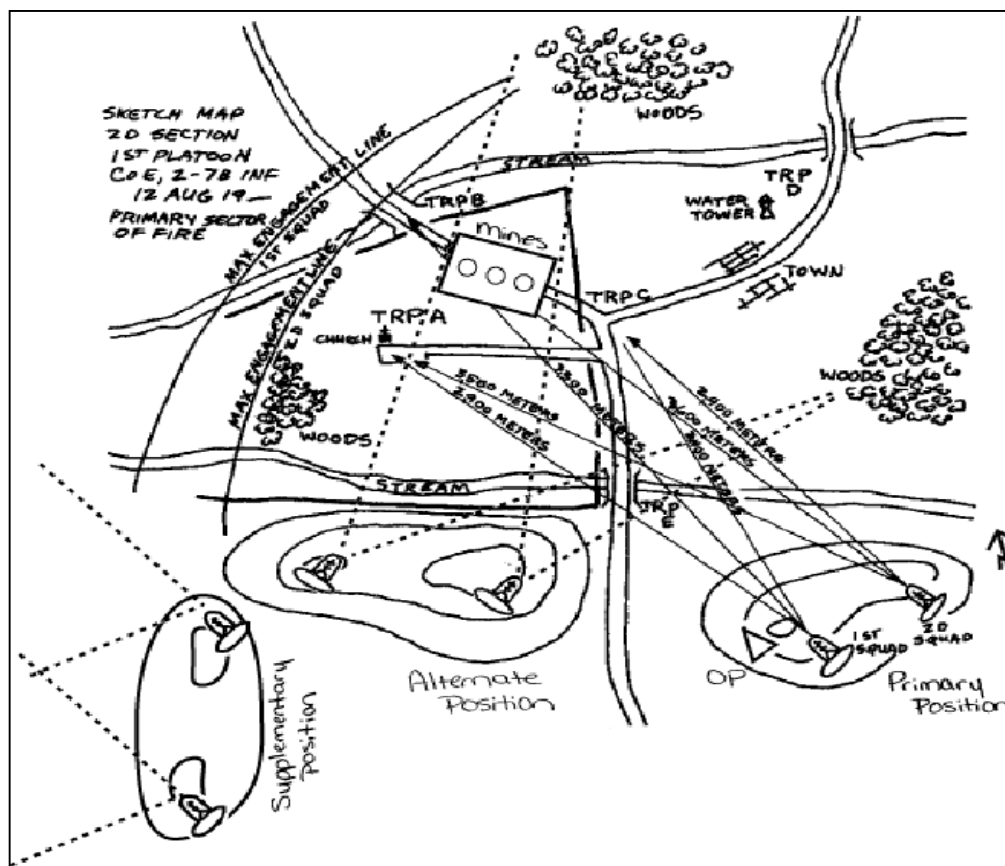

Figure 4. Section sector sketch.
9. Make a second copy of the completed section sector sketch (Figure 4) so that you can keep one and send the other to the platoon leader. The platoon's SOP should state how soon, after occupying the position, the section leader must forward the sketch to the platoon leader.